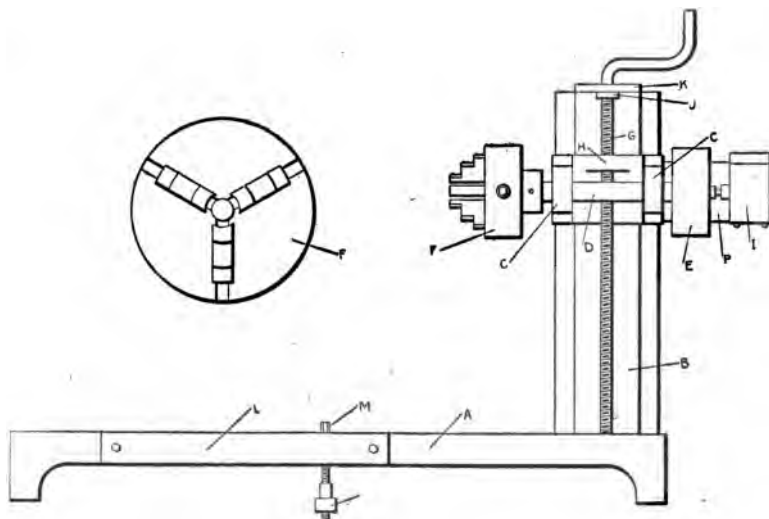
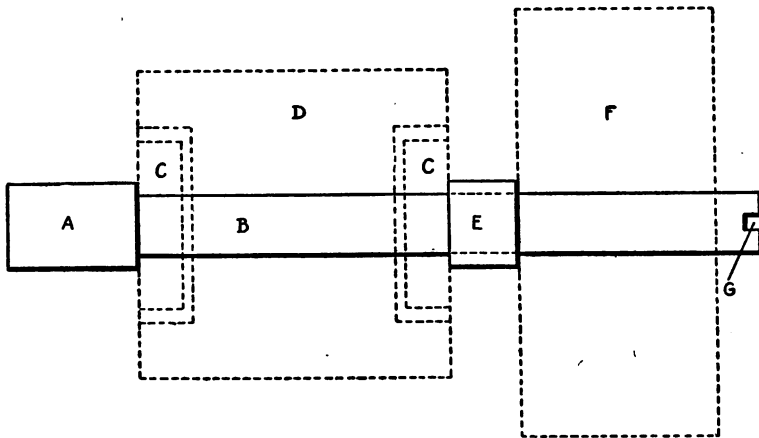

Fig. 475. Generator Test Stand
Fig. 477. Pulley Assembly for Generator Test Stand
**Generator Test Stand.** To test and regulate generators properly after repairing and before placing on the car, some means must be provided to run the generator at various speeds. Such a test stand must be universal and easily set up. A test stand meeting these requirements is shown in Fig. 475. The baseplate *A* is cast iron, 10"×16", surfaced on the top. Column *B* is bolted to the baseplate and carries an adjustable head, which holds the driving assembly. The location of the column should be such that the center line of the chuck is in the center of the base. A threaded rod bent into a crank *G* raises and lowers the head; the rod should be  $\frac{7}{16}$  inch with an S.A.E. thread. The lower end of the rod is turned with a  $\frac{1}{4}$ -inch shoulder and fits into a
the shaft, Fig. 477. *A* is the end that fits into the chuck collar; *B* is turned to a good light press fit in the bearings; the collar *E* is placed between the outer bearing and the pulley *F* and prevents the shaft from working out; the slot *G* is to drive the speed indicator; *CC* are the bearing seats; and *D* is the body casting. Between *A* and *C* and between *E* and *C* are two thin brass plates to keep the dirt out of the bearings.
The chuck *F*, Fig. 475, is a 4-inch, three-jawed, universal type, fastened to a flange and pinned to the shaft *D*. Any chuck will do for this, as being out of true will not make much difference. The speedometer is made from a Corbin-Brown head, and the scale should have an 80 m.p.h. limit. The hand is taken off and a blank glued to the old dial. The instrument is then recalibrated
with a speed counter to read r.p.m. Having obtained this data on the blank, a neat dial may be drawn and glued on. The speedometer head is held on the carriage by an angle iron made of  $\frac{1}{8}$ "  $\times$  3" iron, the coupling of the head fitting into the slot *G*, Fig. 477. Take care to line up the head so that the coupling will be free at all positions of the shaft. Having the speedometer always operative saves time in testing. The pulley *E*, Fig. 475, should be about 4 inches in diameter and with a 2-inch face, while the motor pulley *A* should be 6 inches.
The generators are held in the stand by a motorcycle chain attached to the screw *M*, Fig. 475, and hooked onto a stud. It is tightened by the hand nut *N*, this screw sliding in a slanting guide *L*; this guide is about 8 inches long and allows for different